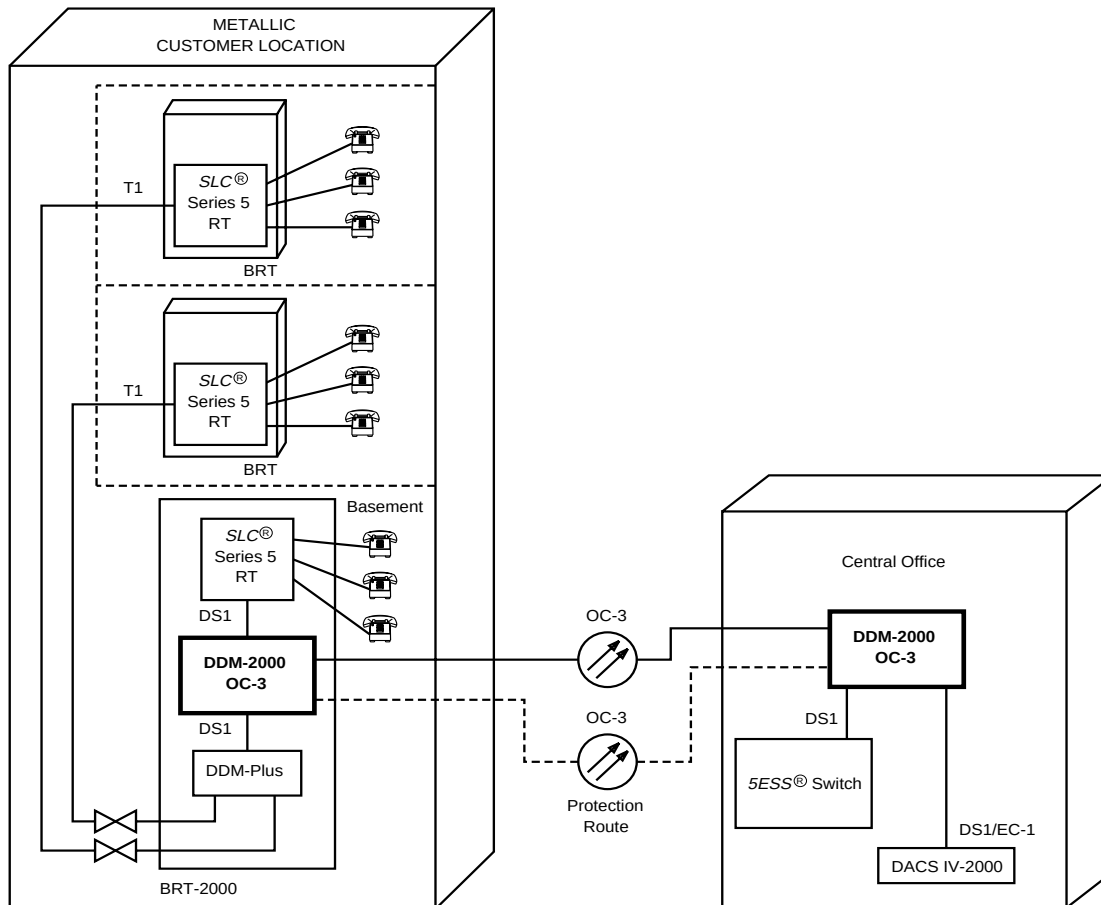
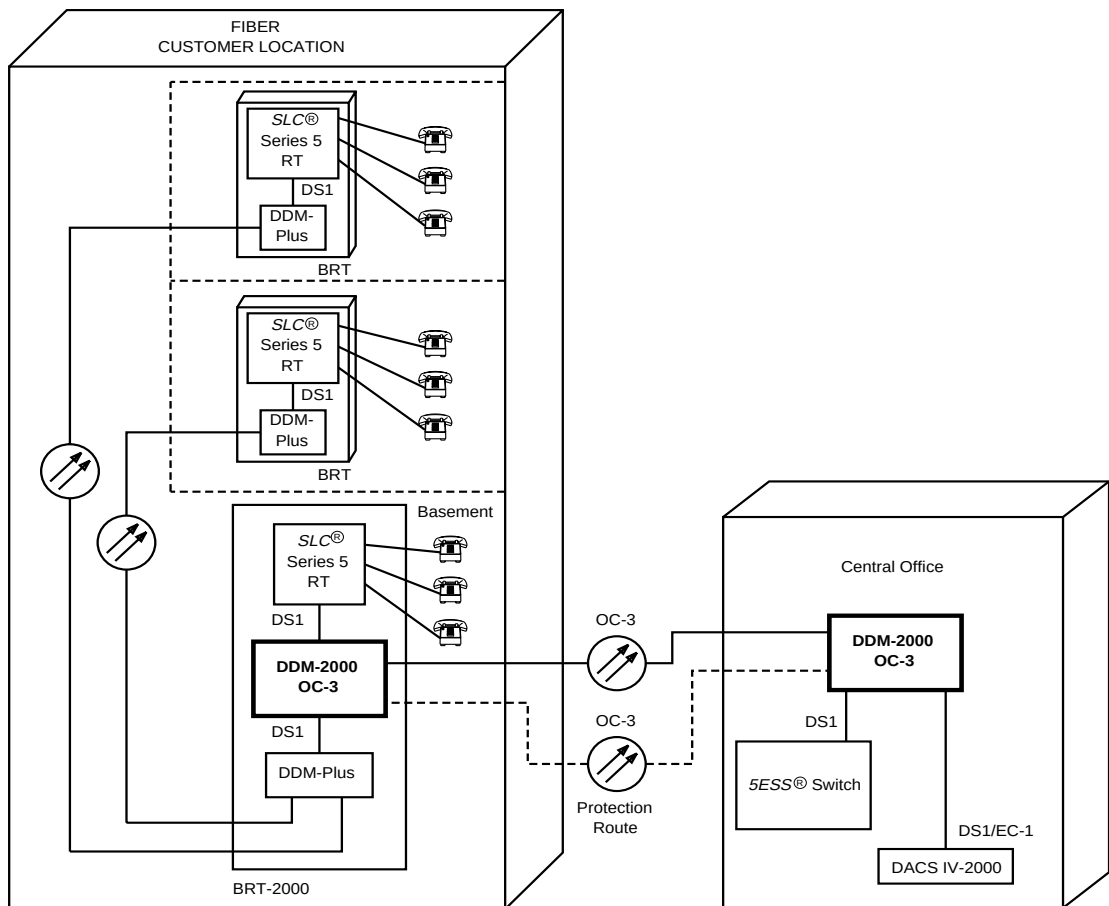

Figure 2-30. Metro Application — Copper in the Riser
Figure 2-31. Metro Application — Fiber in the Riser
Figure 2-30 and Figure 2-31 show two typical applications in a metropolitan high-rise, where an OC-3 point-to-point network runs from the CO to the customer's building. Figure 2-30 shows an initial application with preexisting copper wiring in the building risers. From a basement cabinet, the DDM-2000 OC-3 Multiplexer and DDM-Plus or DDM-2000 FiberReach provide direct DS1 service over this wiring to cabinets on the floors above.
Figure 2-31 shows a larger application with fiber in the riser, using the optical extension capability of DDM-Plus or DDM-2000 FiberReach, to extend optical bandwidth to individual floors. Satellite locations contain the DDM-Plus distant terminal (DT) to convert the optical extension interface into four standard DS1 signals. Self-healing needs can be met with cabled ring or diverse routing. The OC-3 bandwidth to customer locations also positions the network to deliver higher bandwidth services, such as video.